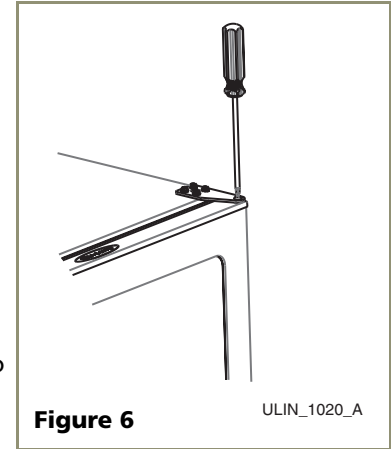

Figure 6
1. Loosen (do not remove) top and bottom hinge screws. See **Figure 6**.